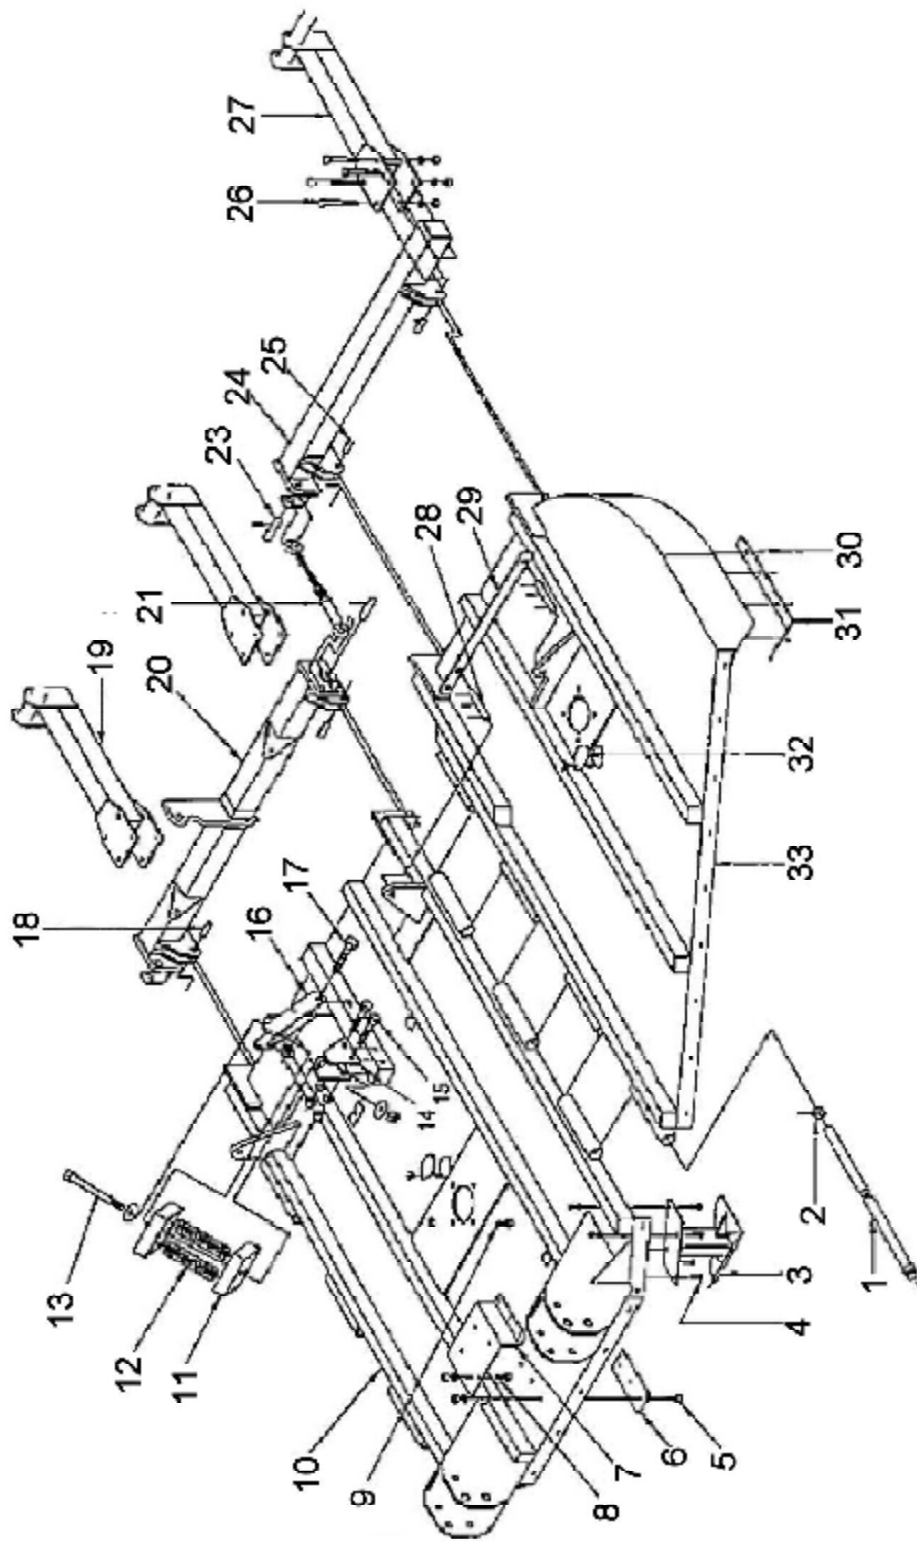

FIGURE 6 – DECKS & WHEEL CARRIAGE COMPONENTS
**DECKS & WHEEL CARRIAGE COMPONENTS (Refer to Figure 6)**
## DECKS & WHEEL CARRIAGE COMPONENTS (Refer to Figure 6)